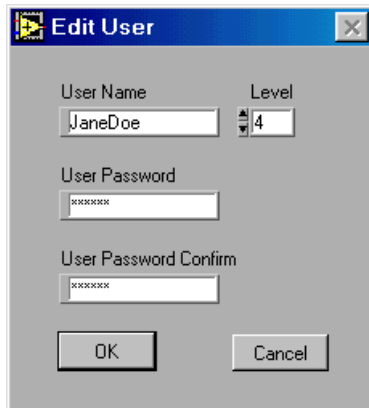

Figure 4-5. Edit User Dialog Box
2. Select the user name you want to edit from the **User** list. Click **Edit User**. The Edit User dialog box opens (Figure 4-5).
2. Select your user name in the **User** list. Click **Edit User**. The **Edit User** dialog box opens (Figure 4-5).